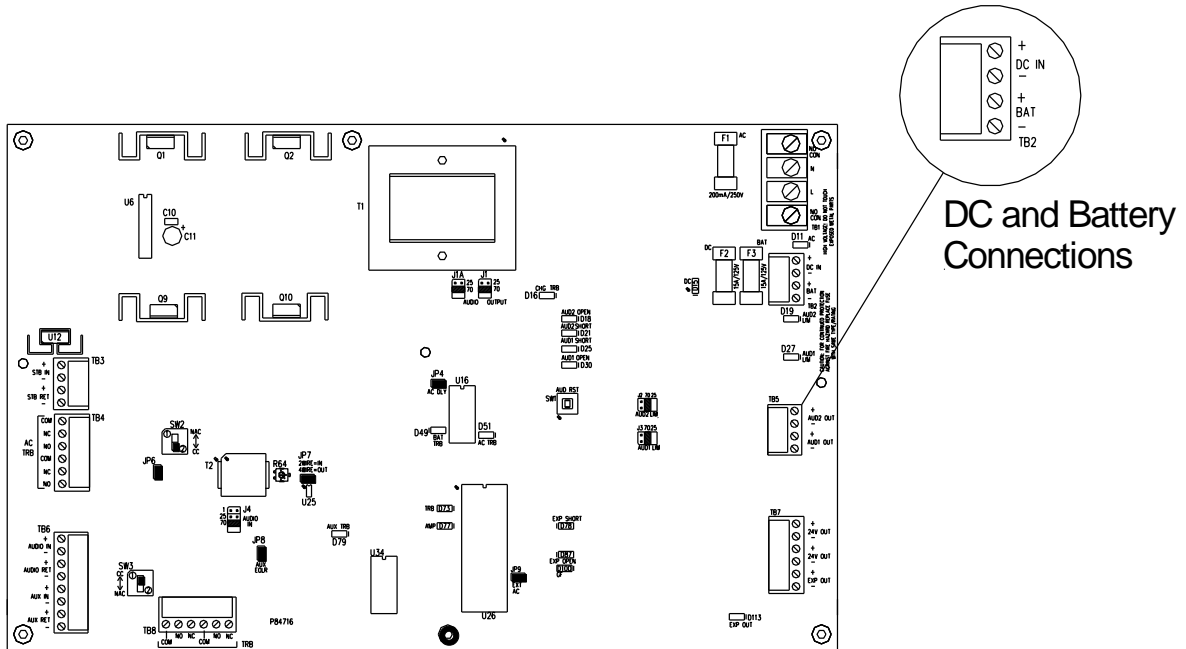

Figure 27 DC and Battery Connection on the Audio Booster Motherboard
2. Connect the battery to the BATTERY terminals on the Audio Booster PC Board shown in Figure 27. The DC OUT on the Audio Booster is used to power the splitter modules only.
1. Connect each set of two batteries BATTERY terminals on each SPB-160 Audio Booster PC Board as shown in Figure 27.